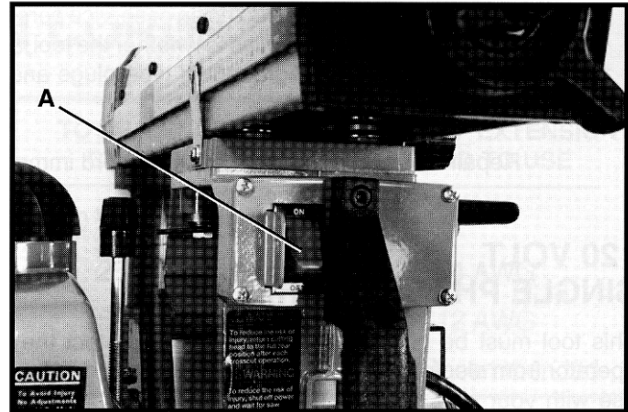
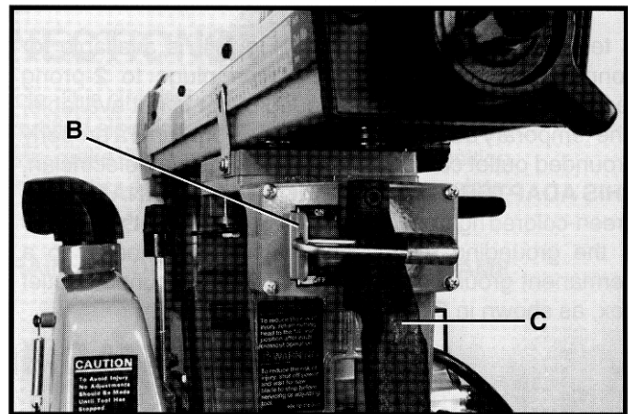

Fig. 36
Fig. 37
The on/off switch (A) Fig. 36, is located at the front of the cuttinghead. To turn the saw "ON" move the switch to the up position. To turn the saw "OFF" move the switch (A) Fig. 36, to the down position. **WHEN THE SAW IS NOT IN USE, WE RECOMMEND THAT THE SWITCH BE LOCKED IN THE "OFF" POSITION.** This can be done by inserting a padlock through the holes in switch plate (B) Fig. 37, and handle (C) as shown.